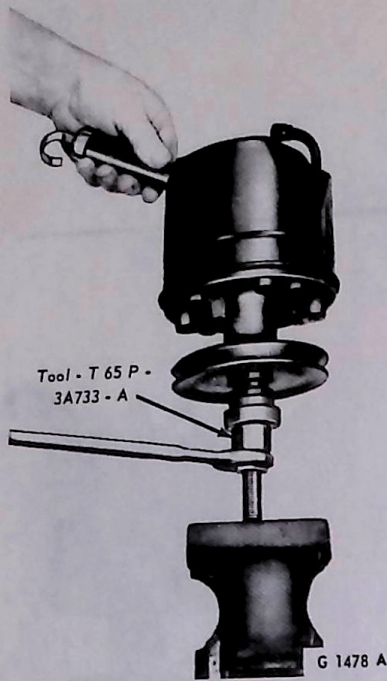

FIG. 6 Installing Power Steering Pump Pulley
1. Position the pulley to the pump shaft and install Tool T65P-3A733-A as shown in Fig. 6.